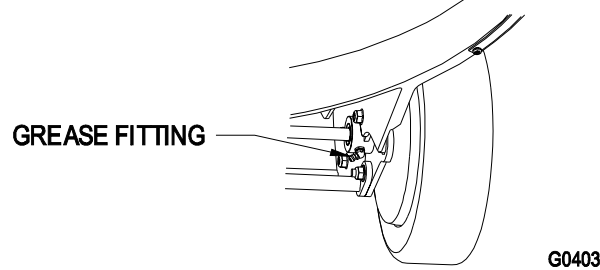

FIGURE 21
- b) Locate the grease fitting on the underside of the mower deck. Wipe the grease fittings with a clean rag (Figure 21).
- c) Install a grease gun onto the fitting and gently apply 2 or 3 pumps of #2 multi-purpose lithium base grease (Figure 21).